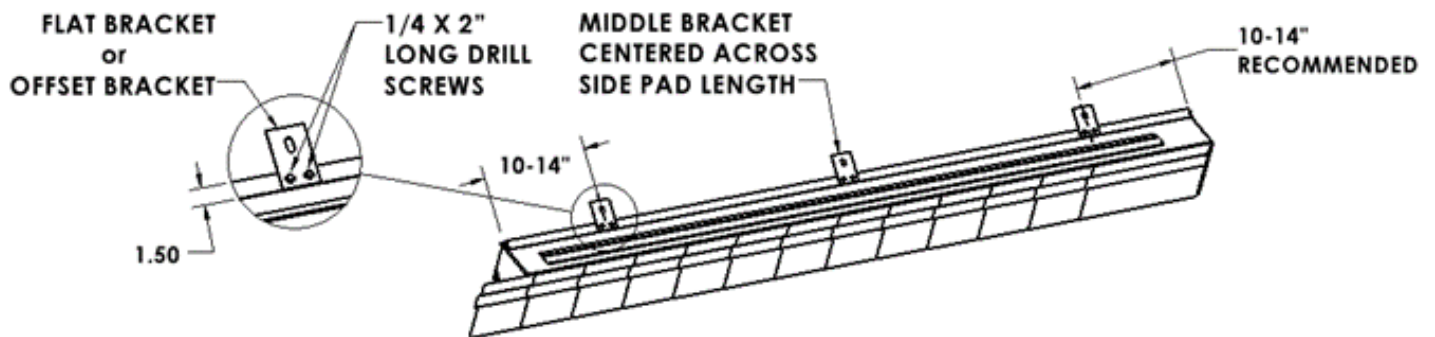

FIGURE 6
5. **ATTACH BRACKETS (J or K) TO BOTH SIDE PADS:** Attach (3) Brackets (J or K) to each Side Pad. See the Parts List page to determine which bracket type is used to connect each Side Pad to the side of the door frame opening. Each bracket will be attached with (2) 1/4"x2" Long Drill Screws (G). Mount the edge of the bracket 1 1/2" off the edge of the Side Pad as shown (Figure 6).